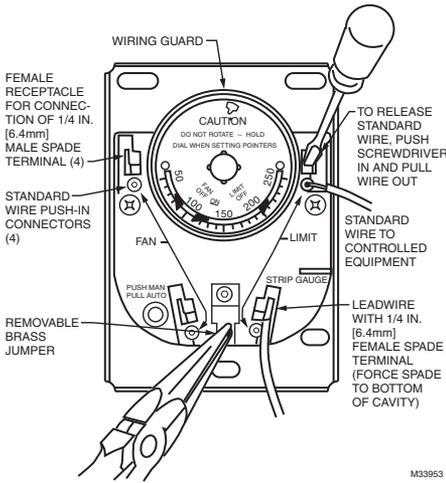

Fig. 5. Location of Wiring Connections.
Disconnect power supply before beginning installation to prevent electrical shock or equipment damage. All wiring must comply with local electrical codes and ordinances or in the absence of local codes with the National Electrical Code ANSI CI-1981 -NFPA 70. Follow burner or furnace manufacturer's instructions if available; otherwise, see Fig. 5 and proceed as follows.
The brass jumper is the breakaway type. It must be removed when the limit is used in the low voltage circuit. To remove jumper, break with a needlenose pliers and remove completely. Once removed, it is not replaceable. See Fig. 5 for location.
When connecting cable or conduit to this controller, use care to avoid strain on the control case. Connections can be made to standard wire push-in terminals or female receptacles for 1/4 in. (6.4 mm) male flag connectors on both the fan and limit switches (Fig. 5).
screwdriver in and hold while inserting wire into terminal (Fig. 5). Remove screwdriver. If stranded wire is solder-dipped, it can be pushed directly into terminal holes.
3. Push male flag connector directly into the female receptacle. Make sure that the flag is forced to the bottom of cavity and wire is in the channel (Fig. 5).